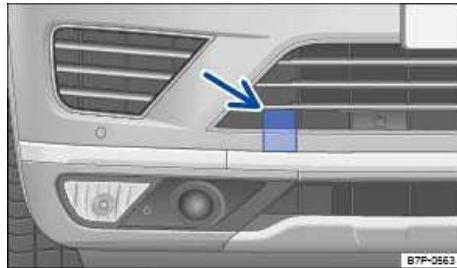

Fig. 351 In right front bumper: Removing the cover.
- Push the outboard edge of the cover ⇒ fig. 351.